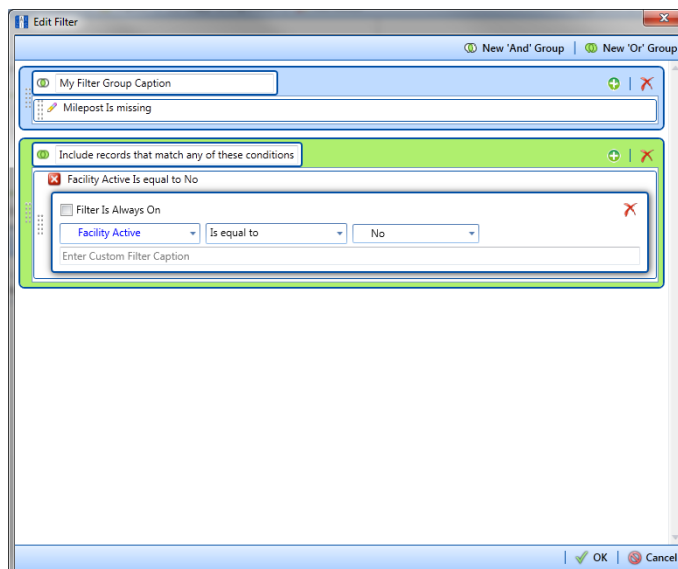

Figure 10-36. New 'Or' Filter Group
- a Click **New 'Or' Group** to open a filter properties group box (Figure 10-36, page 523).